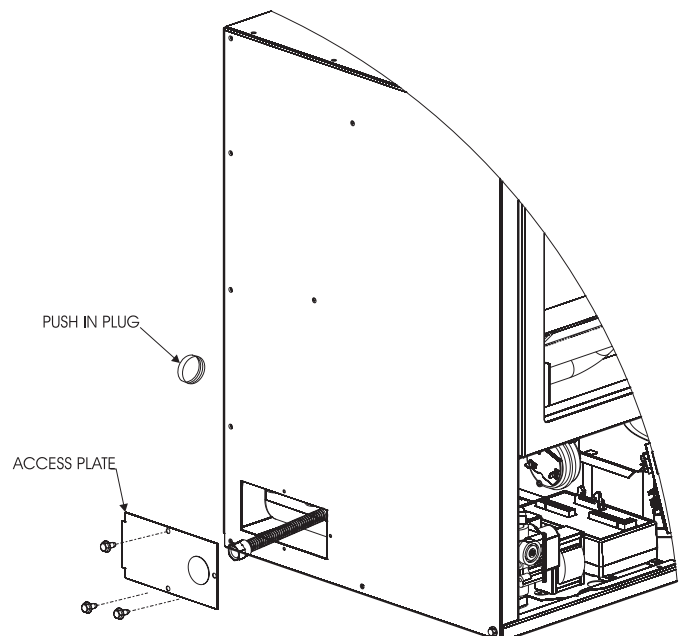

Figure 58
1. Remove the access plate on the left side of the cabinet by removing three screws as shown in Figure 58. Put the screws aside.